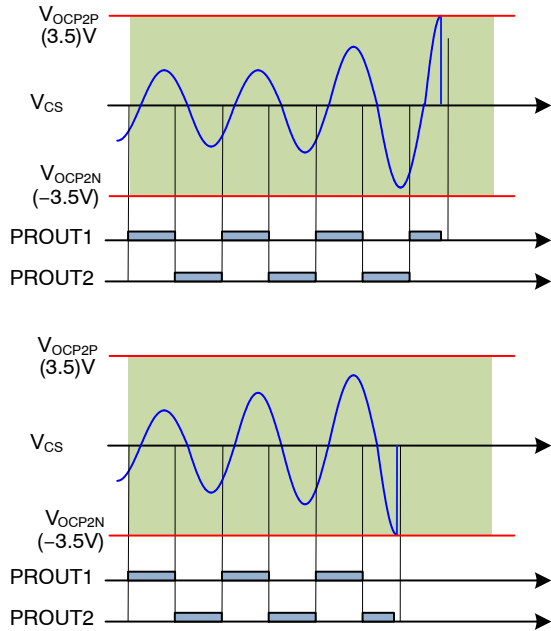

Figure 66. Over-Current Protection of the CS Pin
2. Over-Current Protection (OCP2): When V_{CS} is higher than 3.5 V or lower than -3.5 V, over-current protection (OCP2) is triggered. The instantaneous primary side current is also sensed on CS pin. Since the OCP2 thresholds on the CS pin are 3.5 V and -3.5 V as shown in Figure 66, the CS signal is typically obtained from V_{SENSE} by using a voltage divider as illustrated in Figure 61. 150 ns debounce time is also added for OCP2